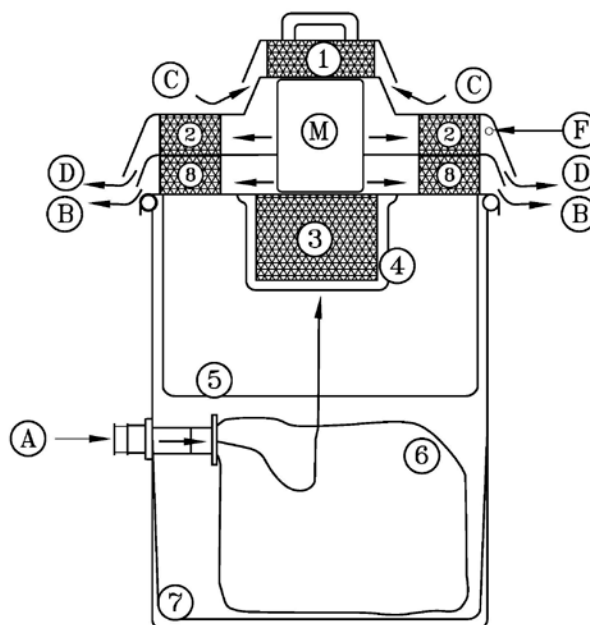

Figure 1
2. Place the poly liner (item # 7 on Fig. 1) at the bottom of the tank
3. Place the collection bag (item # 6 on Fig. 1) in the recovery tank on the air intake
4. Place the main cloth filter (item # 5 on Fig. 1) on the recovery tank. Make sure that the filter's gasket covers the circumference of the recovery tank lip.
11.1. REPLACEMENT OF THE HEPA FILTER FOR MOTOR COOLING AIR INTAKE (ITEM #1 ON FIG. 1 SEE SECTION 8 FOR ILLUSTRATION)
11.2. REPLACEMENT OF THE HEPA FILTER FOR MOTOR COOLING AIR EXHAUST (ITEM #2 ON FIG. 1 SEE SECTION 8 FOR ILLUSTRATION)
11.3. REPLACEMENT OF THE HEPA FILTER FOR WORKING AIR EXHAUST (ITEM #8 ON FIG. 1 SEE SECTION 8 FOR ILLUSTRATION)